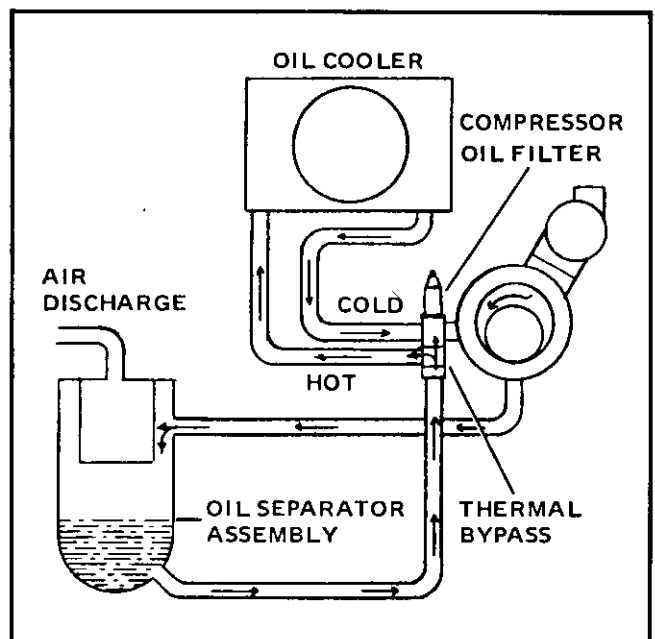

Figure 1-2. Oil cycle schematic diagram
b. **OIL CYCLE.** (See figure 1-2.) After oil is separated
1-13. **OIL FILTER.** Two oil filters are provided, one each for compressor and engine. Refer to Part II for engine oil filter details. The compressor oil filter and thermal bypass valve, described in paragraph 1-4, are mounted on the side of the compressor as an assembly (see figure 1-2).